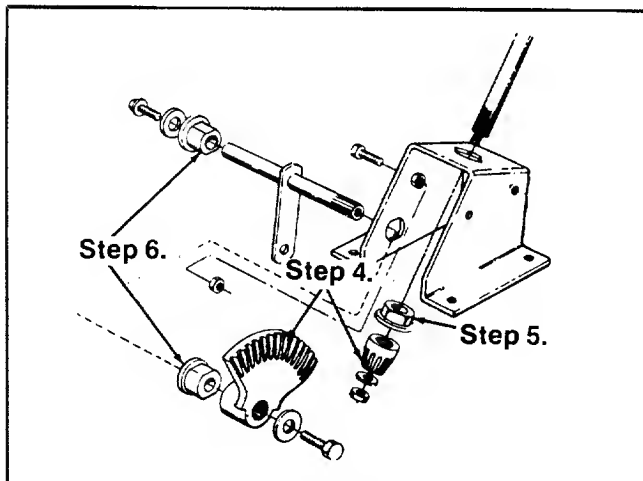

FIGURE 30.
4. **Steering Gears (2).** Lubricate teeth of gears with automotive multi-purpose grease after every 25 hours of operation or once a season. See figure 30.
5. **Steering Column Bearings (2).** Lubricate the top and bottom bearings with SAE 30 oil after every 25 hours of operation or once a season. See figure 30.
6. **Steering Shaft Bearings (2).** Require no lubrication. See figure 30.